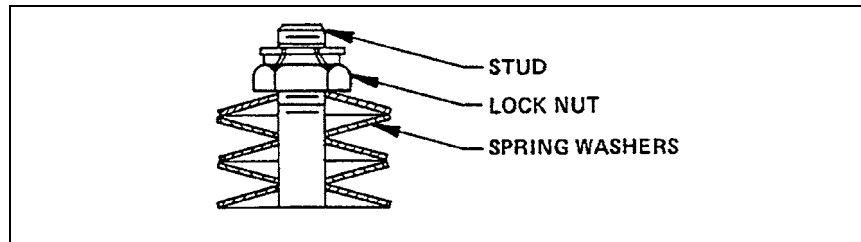

Figure 2—Spring Washer Stackup
6. Place the spring washers on the plug stud as shown in Figure 2.
18. Stack the spring washers on the stud as shown in Figure 2.